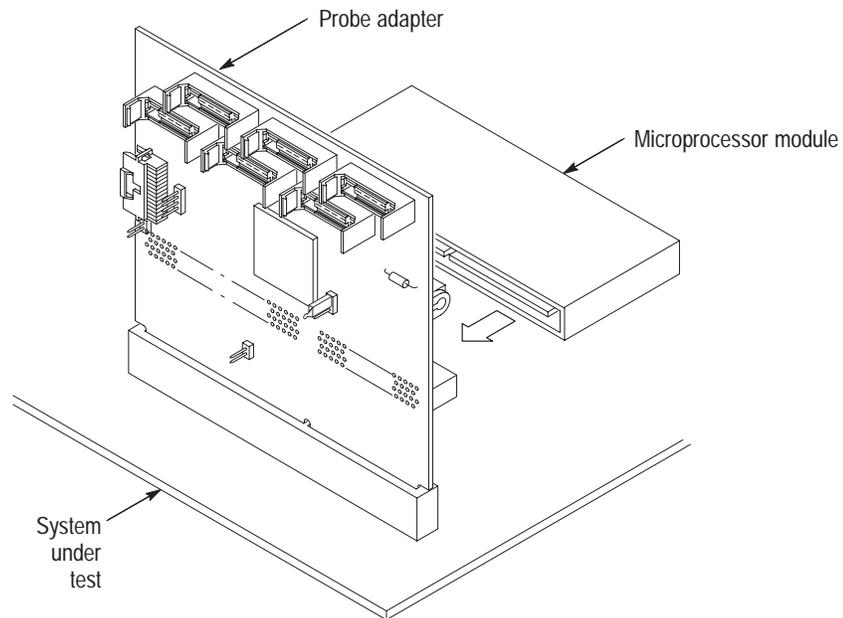

Figure 1-4: Placing the microprocessor module into the probe adapter
9. Insert the microprocessor module into the probe adapter as shown in Figure 1-4.